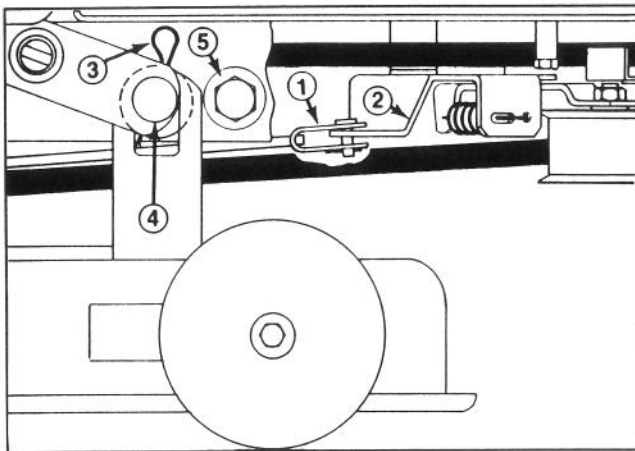

Figure 17
9. Remove the cotter pin and clevis pin securing the deck brake rod to the idler bracket (Fig. 17).
10. Remove the (2) hairpin cotters and washers retaining the mower housing to the mounting pins (Fig. 17). Grasp the mower housing and move it to the side until the housing slides off the pins, then move it forward to allow the front mounts to drop.
5. Remove the capscrews, retainers, and locknuts securing the deck stops to each side of the mower frame (Fig. 17). Slide the mower housing rearward to release the belt tension.